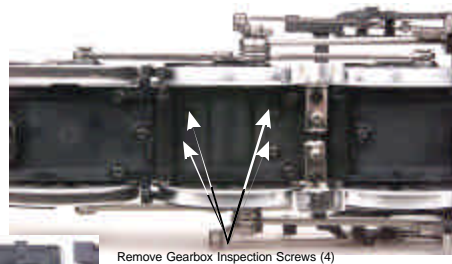

Figure 14: Removing The Gear Box Bottom Access Cover
3. Locate and remove the four gearbox bottom access cover screws as seen in Figure 14.